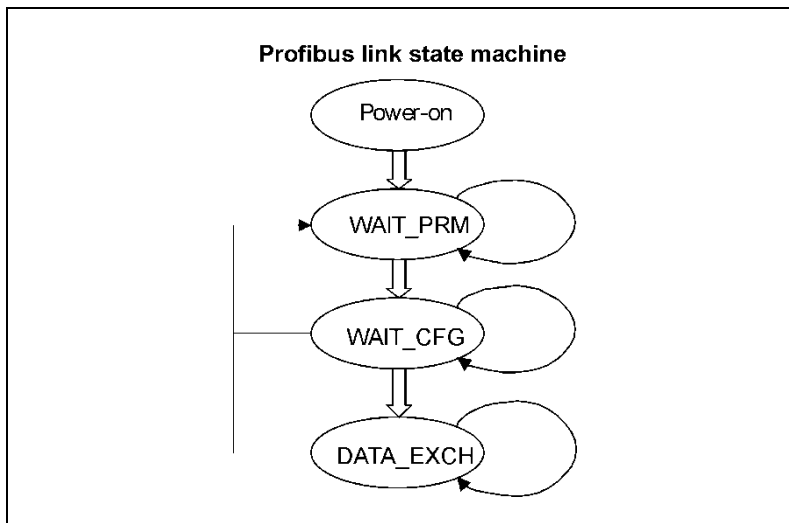

Figure 44
- 5 Connection example: (see Fig. 44)